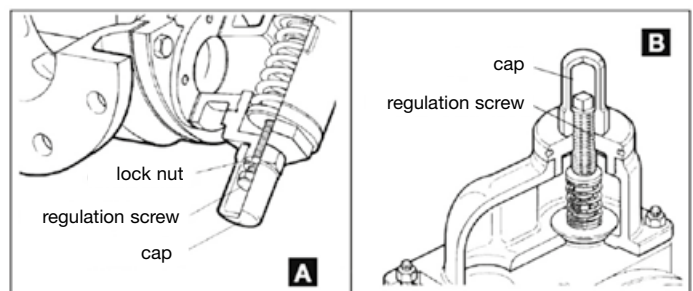

Fig. 9
- h) It is always advisable to use a safety valve that can be supplied and fitted even after the pump has been installed. In fact, it is possible that for any reason the delivery line may be closed while the pump is running. In this case, the pressure that is generated reaches very high levels, compromising the transmission components or pipe couplings. The pressure relief valve is installed externally on the cover or on the pump casing and is calibratable from the outside. With reference to Figure 9 (A-B), the spring tension on the locking plate can be increased or decreased by turning the regulation screw under the cap. When the pressure generated by the pump acting on the lower face of the plate is such that it equals the counterforce of the spring, the plate starts to act. This pressure is called 'opening start pressure'. The liquid begins to flow through the outflow port towards the suction side of the pump.